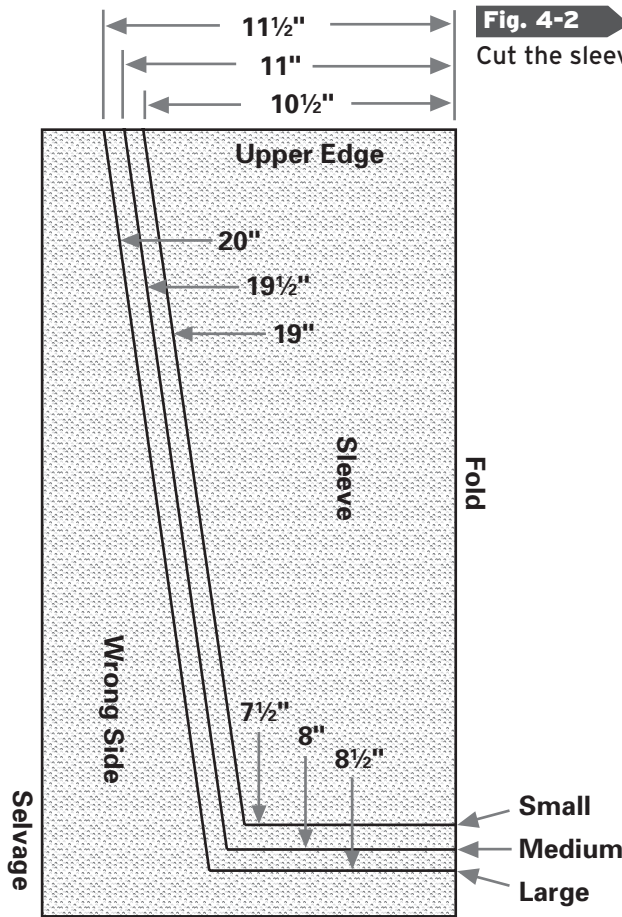

Fig. 4-2
- ❑ To cut the sleeves, fold the fabric in half. Use a fabric marker and yardstick to draw the cutting lines, as shown in the illustration. Note that sleeve dimensions are given for each size. (Fig. 4-2)